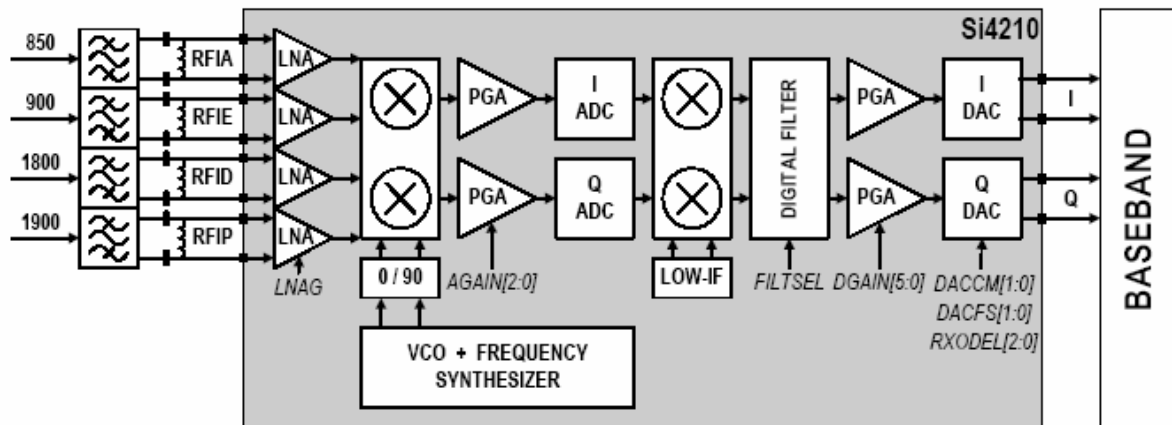

Figure. 3-2 SI4210 RECEIVER PART
The LNA inputs are matched to the 150 balanced output SAW filters through external LC matching networks. The LNA gain is controlled with the LNAG[1:0] and LNAC[1:0] bits in register 05h (Figure 3-2).
B. Intermediate frequency (IF) and Demodulation
A quadrature image-reject mixer downconverts the RF signal to a 100KHz intermediate frequency (IF) with the RFLO from the frequency synthesizer. The RFLO frequency is between 1737.8 to 1989.9 MHz, and is internally divided by 2 for GSM 850 and E-GSM 900 modes. The mixer output is amplified with an analog programmable gain amplifier (PGA), which is controlled with the AGAIN[2:0] bits in register 05h (Figure3-2). The quadrature IF signal is digitized with high resolution A/D converters (ADCs).